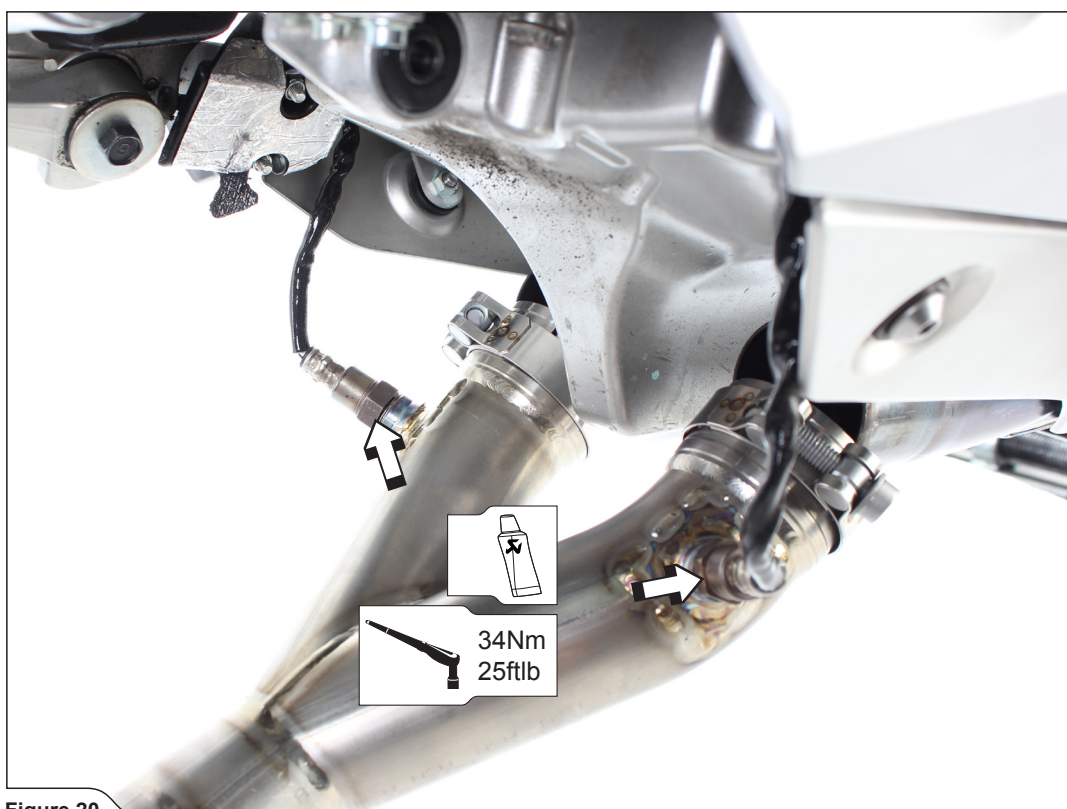

Figure 20
2. Tighten both lambda sensors into the link pipe (Figure 20).